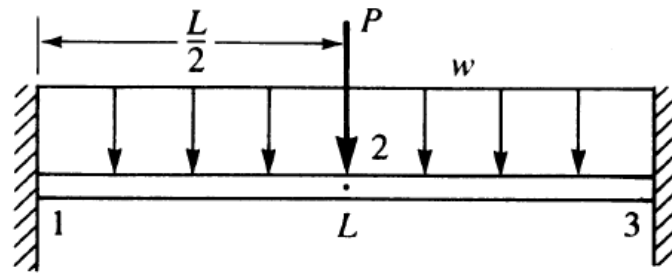

Figure 6
- 4) For the beam shown in Figure 6, subjected to the concentrated load P and the linearly varying line load w, determine the mid node deflection and rotation and the reactions. Use the equivalent load replacement method. Let EI be constant throughout the beam. (10)